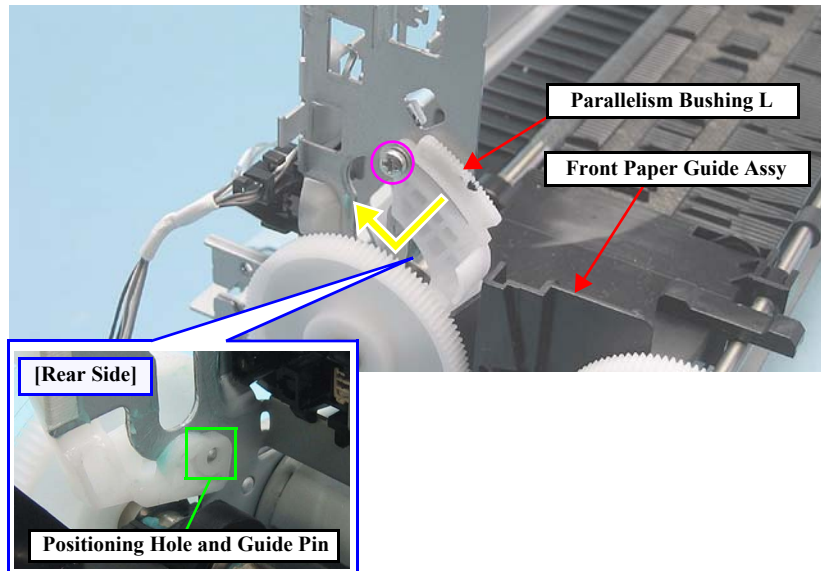

Figure 4-107. Removing the Parallelism Bushing L
- When installing Parallelism Bushing L, match the positioning hole with the guide pin shown in Fig.4-107 (p.96).